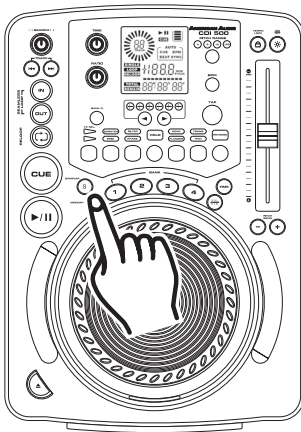

Figure 16
- 1) Create a Cue Point by one of the two means listed on page 17. Press the **MEMORY BUTTON (16)**, as in Figure 16. The yellow Memory Cue LED will glow indicating the store memory function has been activated. You may now press any one of the four **BANK BUTTONS (12)** to store your cue point into memory (Figure 17). After pressing one of the **BANK BUTTONS (12)**, the corresponding Bank Button LED will flash briefly. The LED on the the **BANK BUTTON (12)** will remain lit indicating either a sample or cue point is stored in memory. The yellow Memory LED will turn off.